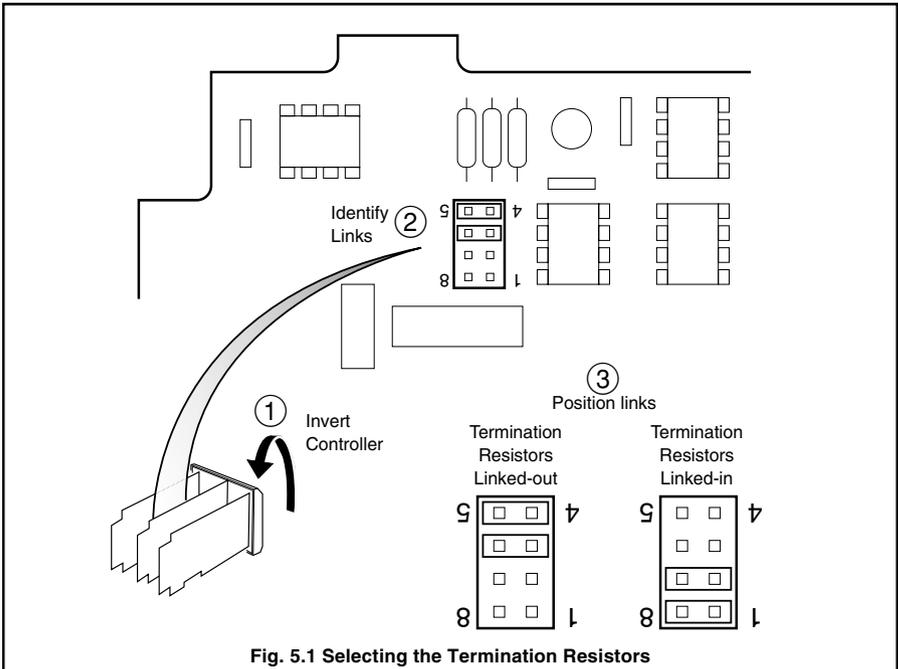

Fig. 5.1 Selecting the Termination Resistors
5.1 Termination Resistors – Fig. 5.1
For long transmission lines, termination resistors are required on the last C300 Controller in the chain and at the host computer/computer terminal – see Fig. 4.2. Under normal operating conditions the resistors are required at the receive inputs only. The controller's resistors are selected using plug-in links – see Fig. 5.1.
Switch off the supply and remove the controller from its case (Fig. 2.1 in the Operating Instructions, IM/C300). Set the termination resistor links as shown in Fig. 5.1.